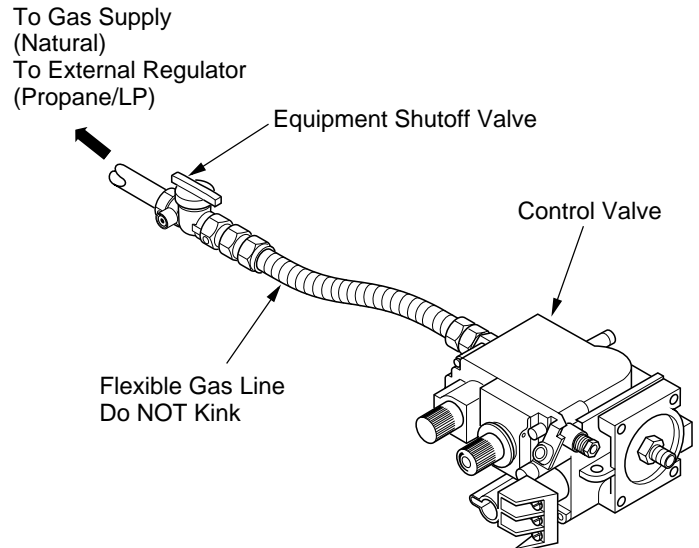

Figure 32 - Connecting Flexible Gas Line to Millivolt Valve
3. Attach flexible gas line from gas supply to control valve (see Figure 32).